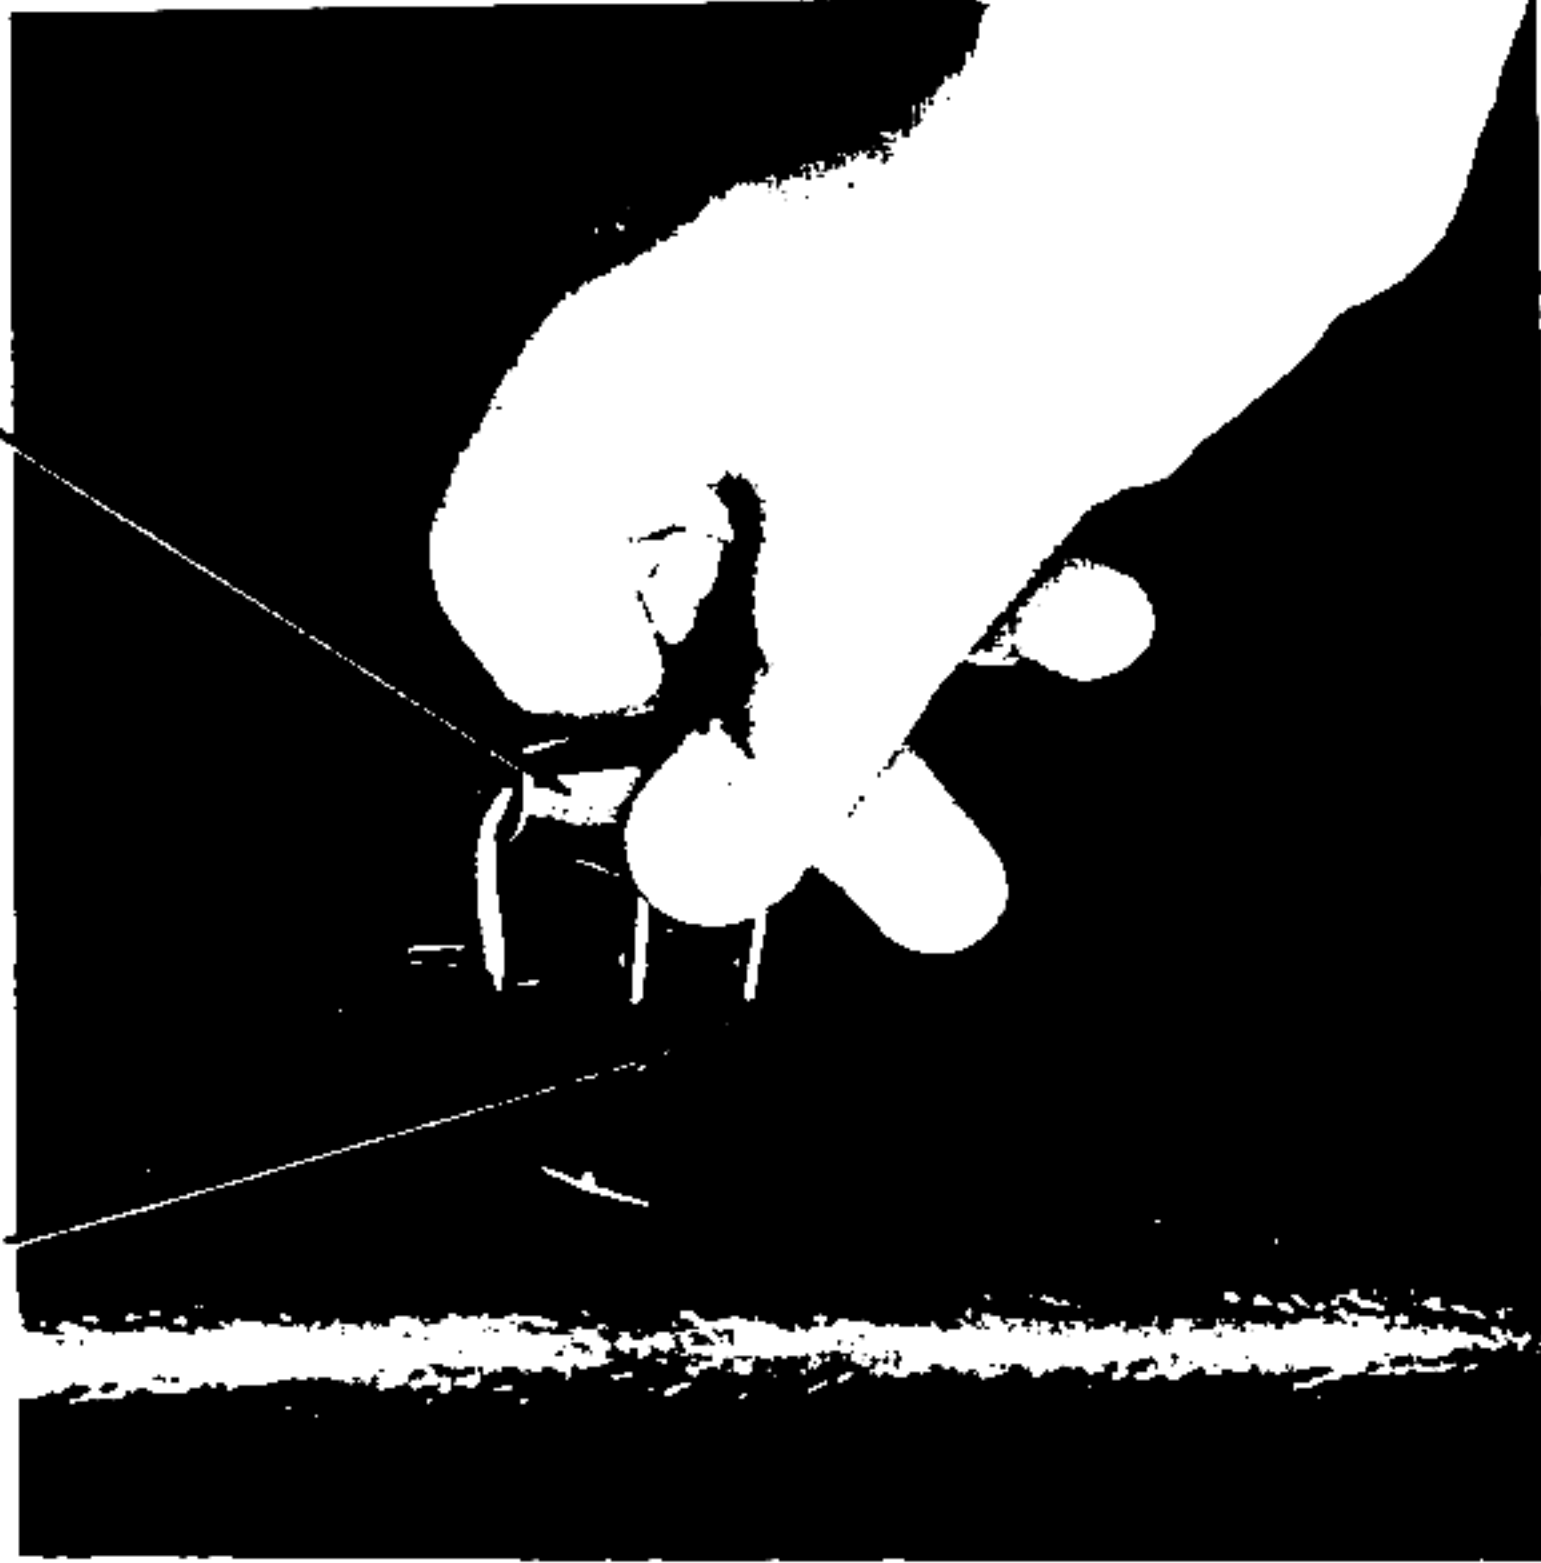
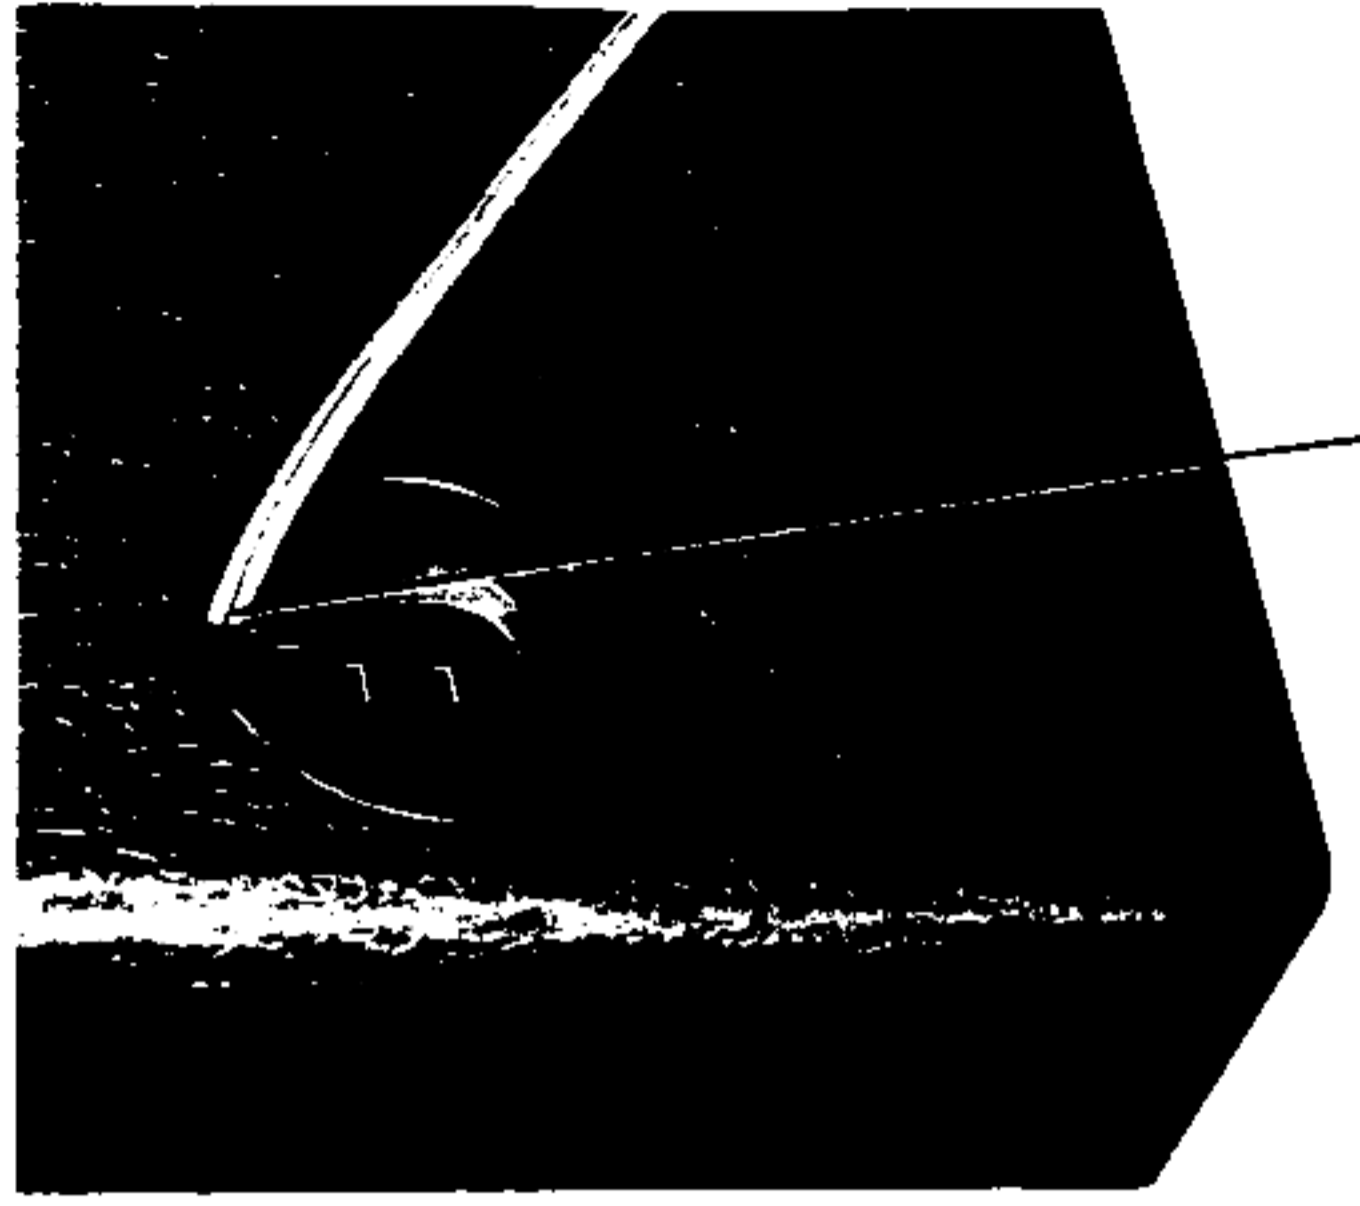

Figure 2 — Insertion of 110 Volt Plug Into Battery Saver Socket.
Figure 3—Power Cord Captivated in Retaining Slot.
- A. The 110-volt plug must be placed in the battery saver socket provided in order for the receiver to operate on the Z985 dry battery pack. (See fig. 2.) The excess 110-volt line cord is automatically taken up by the line cord reel inside the cabinet.
- A. To operate the receiver on 110-volt 60 cycle Alternating Current or 110-volt Direct Current it is only necessary to remove the power plug from the Battery Saver Socket at the side of the receiver, (See fig. 2.), pull out the Power cord and captivate it in the retaining slot, (See fig. 3).